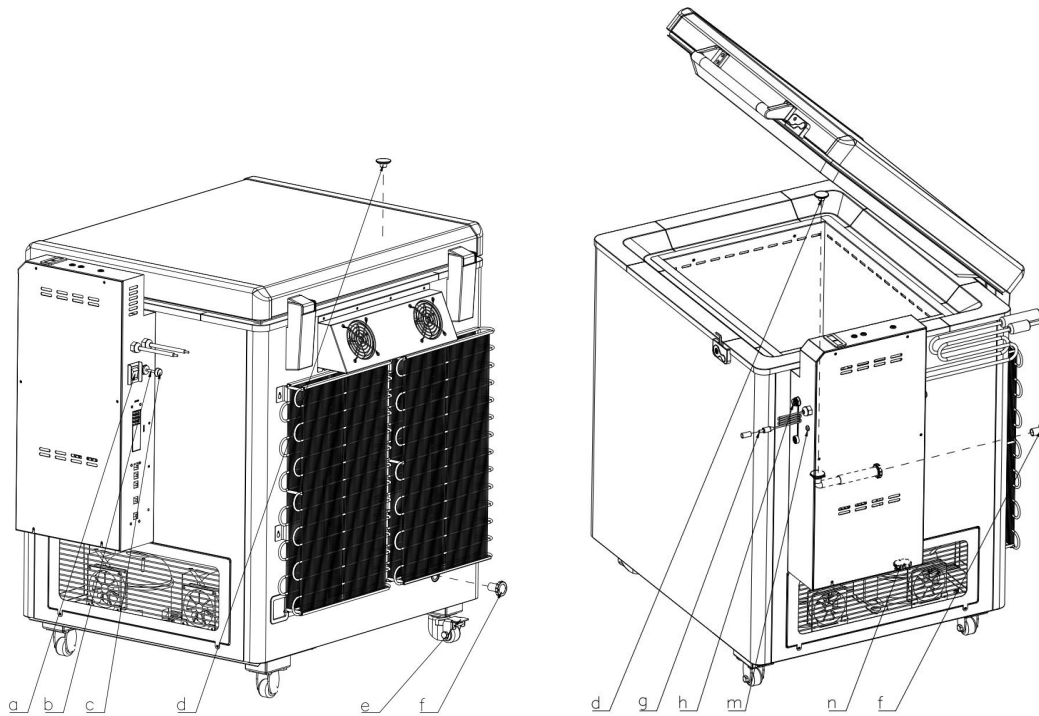

Figure 1
① After the equipment is placed, leveled and cleaned, it shall stand for more than 24 hours, and then power it on to ensure the normal operation of the equipment. In the figure 1, please lock the the universal wheel (press the "e" button). If you need to move the device, please unlock the universal wheel (lift up the "e" button).
- ② In the case of empty container, connect the refrigerator to PV module or the power supply of appropriate specification
- ③ When the power is turned on, the display panel display will light on.
- ④ Before leaving the factory, the corresponding parameters have been set. No manual setting is required.
- ⑤ After approximately 4 to 5 days of running, the refrigerator temperature can reach a reasonable temperature range. After approximately 8 to 9 days of running, the full autonomy time will be achieved.
- ⑥ Try not to open the door during cooling, otherwise the temperature will rise.
- ⑦ After completion of the inspection on the running of the refrigerator and after the temperature reducing to a reasonable range, add items in the refrigerator.
- ① The equipment has a memory function for the set value. When the power is restored after power failure, the equipment will continue to operate before power failure.
- ② We guarantee the normal operation of this equipment under certain conditions, but we are not responsible for any loss or damage of stored items after power failure.
◆ In the figure 1, Power switch "a" is located on the left of the equipment: "0" means off, "1" means on.
- ◆RS485 2 wire port to connect with any MODBUS compliant slave. In the figure 1, its code is "n".
- ◆In the figure 1, press "m" key for 10 seconds to completely start the battery. At this point, the red status LED will illuminate for 4 seconds. Afterwards, the logger will be activated.
- ◆Barrel-type male plug outputs a voltage of 5V and a current of 1A, and can only charge devices that meet these parameters. In the figure 1, its code is "g".
devices and power supply from external devices to the logger in the event the logger's energy storage is depleted. In the figure 1, its code is "h".
- ◆ There is an outer plug "f" and an inner plug "d" as shown in the figure 1. Prepare the water box before draining. Remove "f" and "d" and drain the condensate. Put back the plugs after draining, otherwise the performance will be affected.
- ◆ In the figure 1, Find the fuse holder "c", unscrew the screws of the fuse holder, take out the fuse holder "b", put in the new fuse, and tighten the fuse holder.